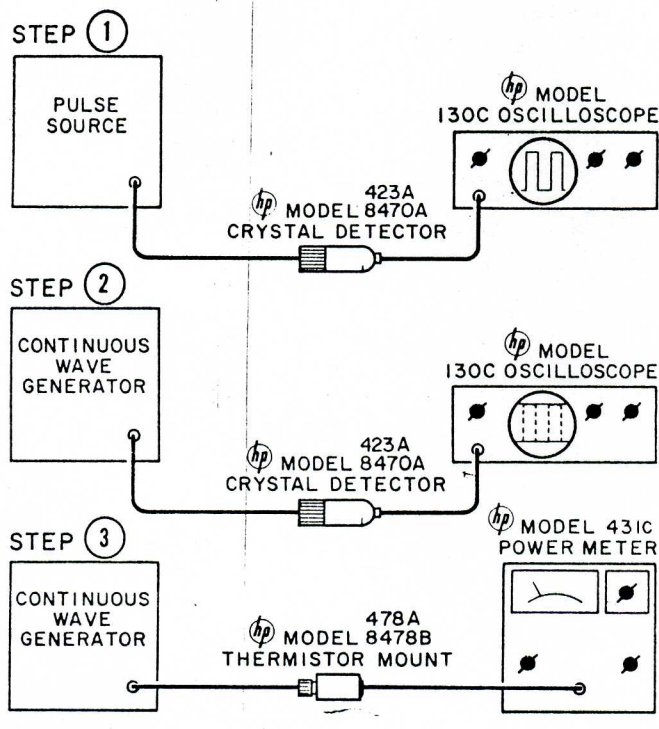

Figure 2. Peak Power Measurement
13. The power applied to the Detector can be either modulated or continuous wave (CW). If modulated at a 1000-cps rate, the sensitive HP Model 415B/E can be used as the indicator. For CW detection, a dc milliammeter or millivoltmeter such as the HP Model 425A Microvolt-Ammeter can be used as the indicator.
15. The arrangement of equipment for peak power measurement is shown in Figure 2. The procedure involves calibration of an oscilloscope which in turn is used to calibrate a CW generator. The output of the calibrated CW generator is measured with a power meter; the peak power of a pulse is thereby measured. The procedure is as follows:
- Connect equipment as shown in Figure 2, step 1.